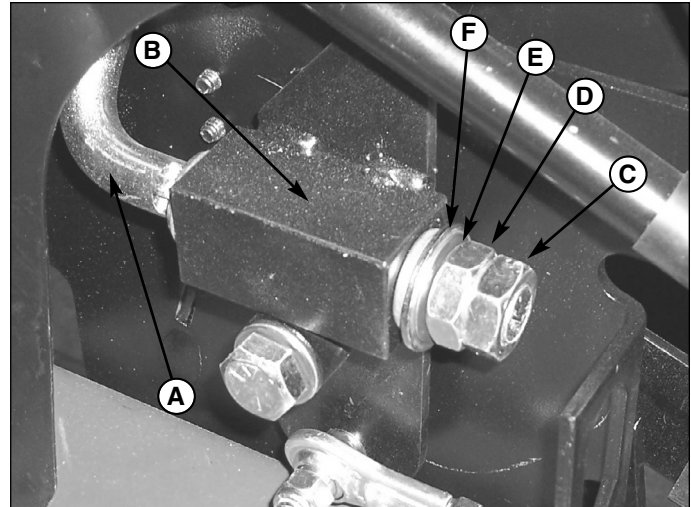

Figure 21a. Motion Control Lever Friction Adjustment
Loosen the outside nut (C, Figure 21a) securing the motion control lever (A) to the control bracket weldment (B). Tighten the inner nut (D) against the bellville washer (E) to 10 ft-lbs. Tighten the outside nut against the inside nut, without allowing the inside nut to turn.